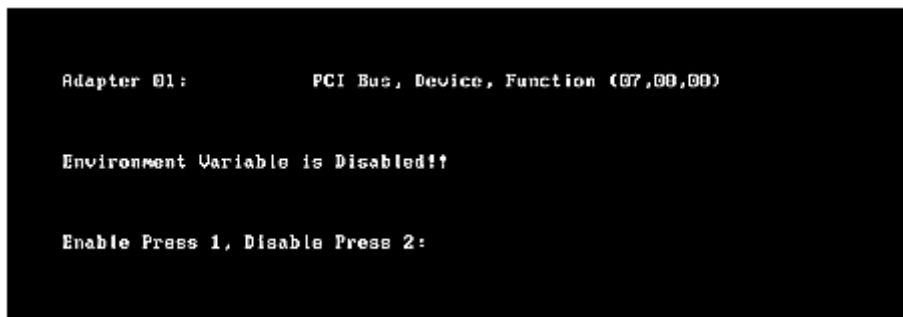

Figure 17: Enable or Disable Environment Variable screen
2. Select **<9>**, Enable or Disable Environment Variable (+Advanced Option+) (Figure 17).